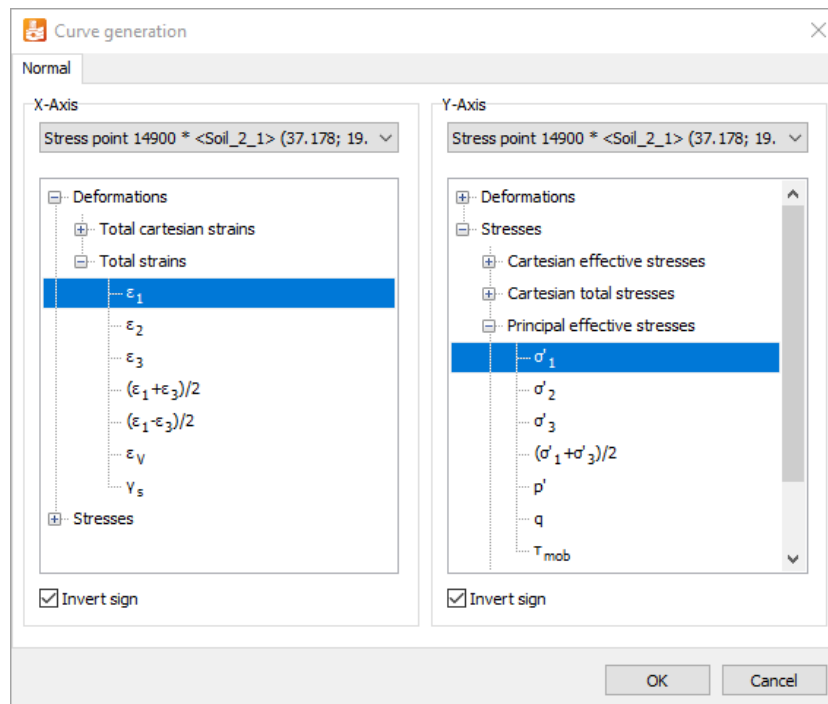

Figure 38: Curve generation window
1. Click on **Curves manager** option and a window pops up. Click on **New** and select the stress points for X-Axis and Y-Axis as shown in Figure 38 (on page 57).